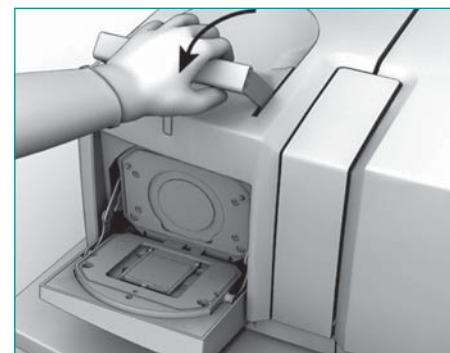

Figure 15: Opening the camera door
- 2 Open the camera door by pulling gently on the handle as shown in Figure 15.